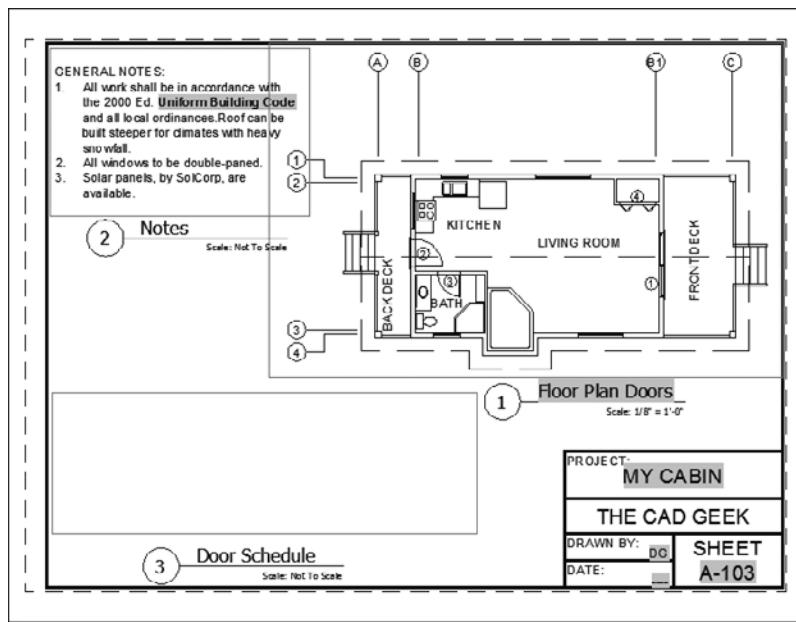

FIGURE 14.81 The Plan Notes layout with the table viewport turned off
2. Right-click and choose Display Viewport Objects; then click No. The contents of the viewport disappear (see Figure 14.81). You can accomplish the same result in the Properties palette by opening the drop-down list next to the On option in the Misc rollout and clicking No.